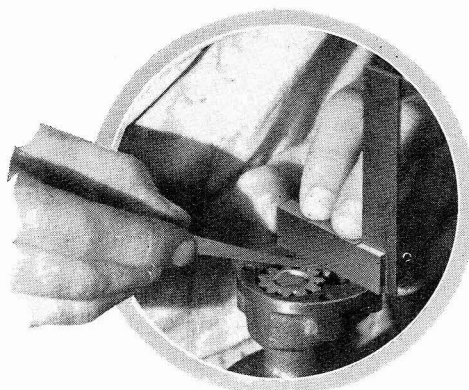

Fig. 5.
2. Check the end float on the gears, placing a straight-edge across the face of the pump body, and measuring the clearances with feelers, as shown in the illustration (Fig. 5). This should not be more than .003 in. (.08 mm.).